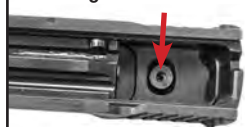

FIGURE 91
- Loosen the screw slightly (FIGURE 91) to allow the rear sight to be moved in the desired direction, then tighten the screw in the new position.